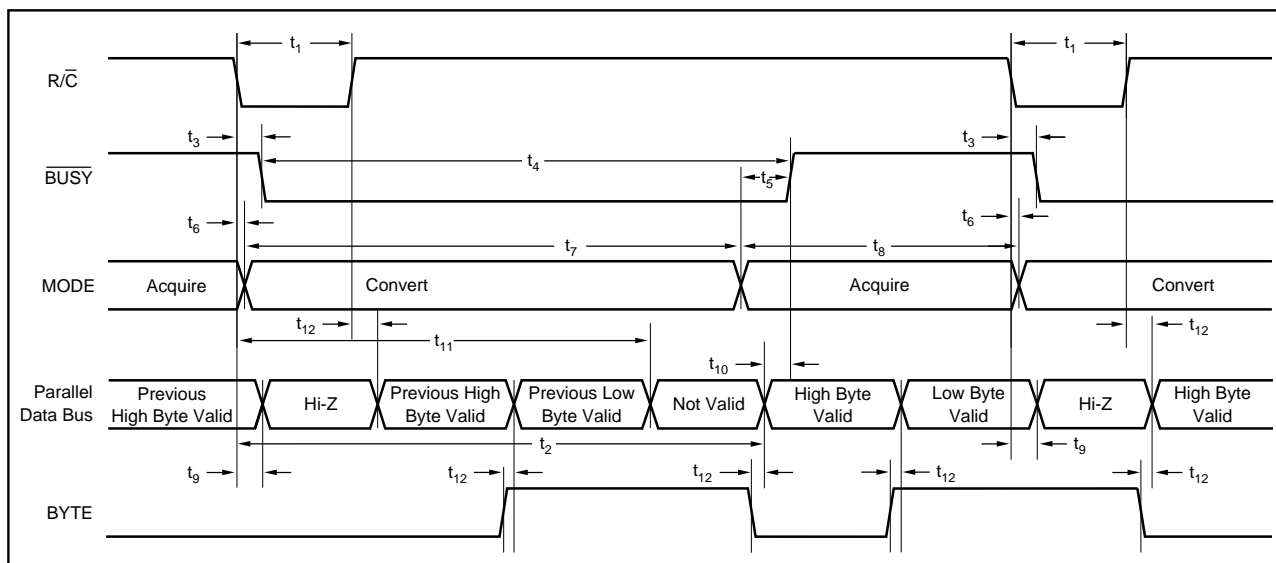

FIGURE 2. Conversion Timing with Parallel Output ( $\overline{\text{CS}}$  and  $\text{DATACLK}$  tied LOW,  $\overline{\text{EXT/INT}}$  tied HIGH).
The ADS7806 will begin tracking the input signal at the end of the conversion. Allowing 25µs between convert commands assures accurate acquisition of a new signal. Refer to Tables III and IV for a summary of  $\overline{CS}$ ,  $R/\overline{C}$ , and  $BUSY$  states and Figures 2 through 6 for timing diagrams.
NOTE: (1) See Figures 2 and 3 for constraints on data valid from conversion "n-1".
After conversion 'n' is completed and the output registers have been updated,  $\overline{\text{BUSY}}$  (pin 24) will go HIGH. Valid data from conversion 'n' will be available on D7-D0 (pins 9-13 and 15-17).  $\overline{\text{BUSY}}$  going high can be used to latch the data. Refer to Table VI and Figures 2 and 3 for timing constraints.
After conversion 'n' has been initiated, valid data from conversion 'n-1' can be read and will be valid up to 12 $\mu\text{s}$  after the start of conversion 'n'. Do not attempt to read data beyond 12 $\mu\text{s}$  after the start of conversion 'n' until  $\overline{\text{BUSY}}$  (pin 24) goes HIGH; this may result in reading invalid data. Refer to Table VI and Figures 2 and 3 for timing constraints.